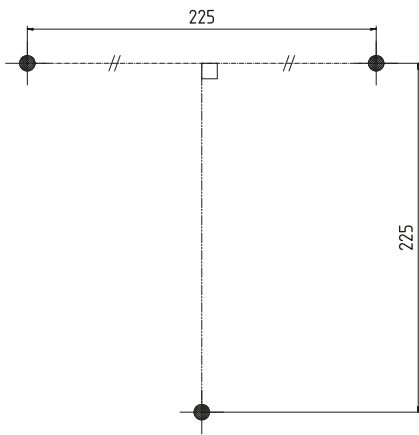

Fig. 12: Drilling template for wall fixation
1. Mark the boreholes on the wall (Fig. 12) and drill them.